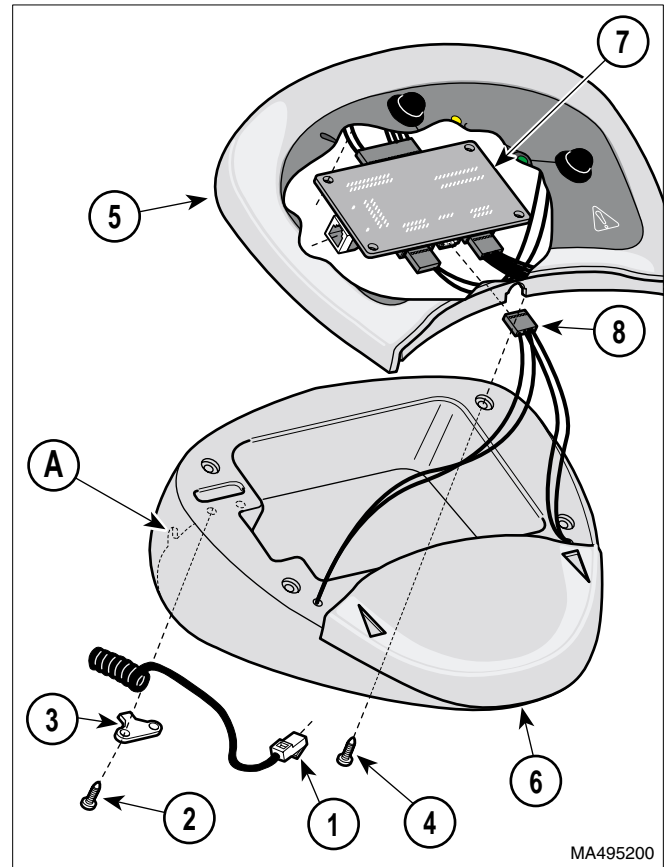

Figure 4-32. Foot Control Top Removal / Installation (Non-Programmable)
- (1) Disconnect coil cord (1, Figure 4-32) from table.
- (2) Remove two screws (2) and strain relief bracket (3).